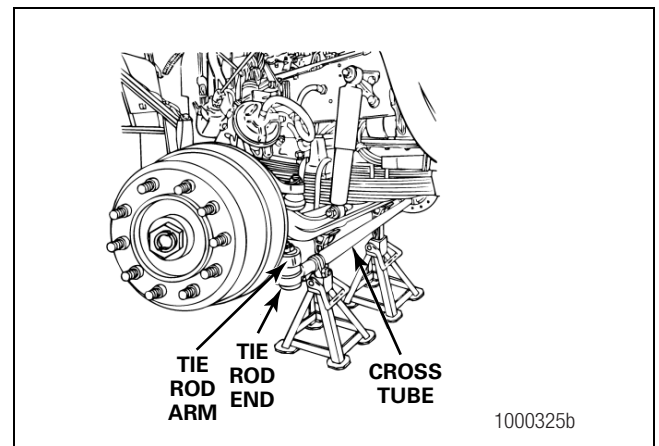

Figure 3.16
1. Park the vehicle on a level surface with the wheels STRAIGHT. Block the wheels to prevent the vehicle from moving. Set the parking brake. Figure 3.16.